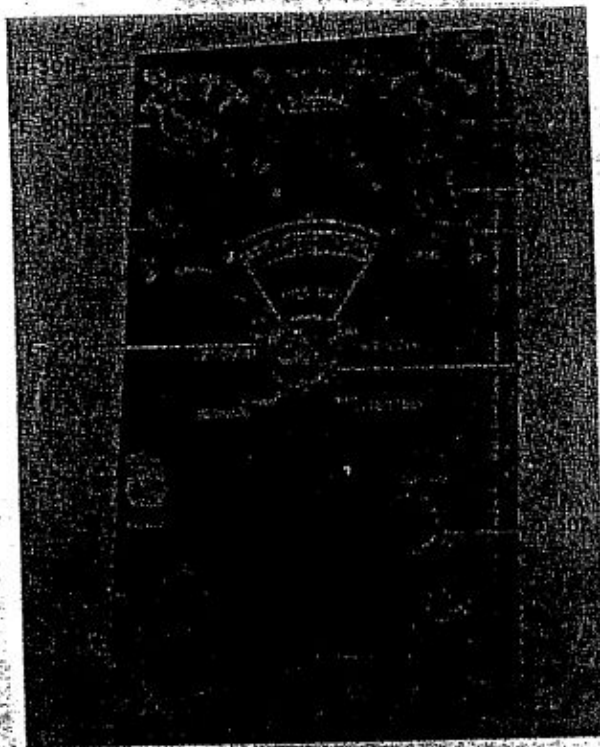

Figure 1-6. Control Box C-149/ARN-6 or C-149A/ARN-6
d. CONTROL BOX C-149/ARN-6 AND C-149A/ARN-6. (See figure 1-6.)—Control Boxes C-149/ARN-6 and C-149A/ARN-6 are rectangular shaped aluminum boxes with the necessary circuit elements and controls to provide complete remote control of the radio compass. For control from either of two positions, two control boxes are installed. The front panel contains the following: "OFF-COMP.-ANT.-LOOP" function switch, tuning meter, "LOOP L-R" switch, "LIGHT" control, dial, band switch, "CONTROL" switch, "TUNING" crank, "AUDIO" control, "CW-VOICE" switch, and "SPARE" bulb. Located on the end adjacent to the "AUDIO" control are the phone jack, and the flexible tuning shaft fitting. All electrical connections are made by a male connector located on the bottom of the control box. This male connector fits into a similar female connector located in the Control Box Mounting MT-275/ARN-6. The control box is held in the mounting by four captive screws.